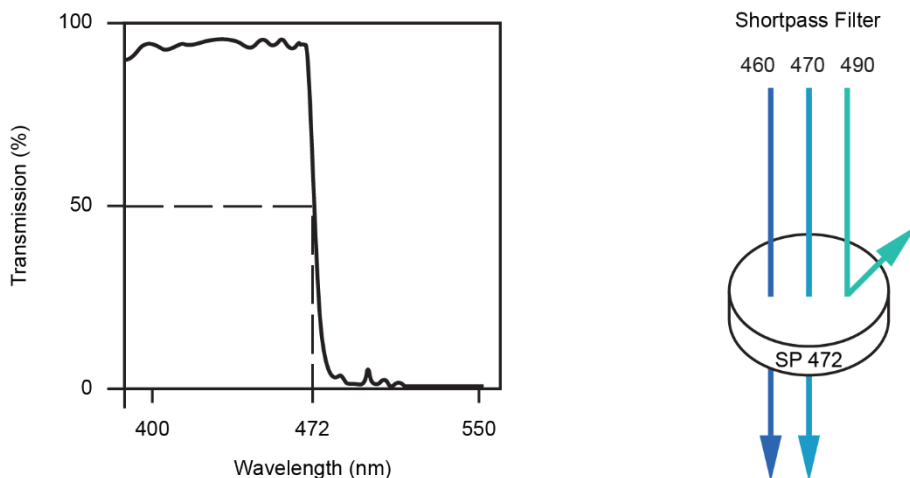

Figure 4. 472 nm Shortpass Filter
Shortpass filters (SP) pass light with a shorter wavelength than the cutoff wavelength. For example, a 472 nm shortpass filter allows wavelengths shorter than 472 nm to pass through it and either absorbs or reflects wavelengths longer than 472 nm as shown in Figure 4.